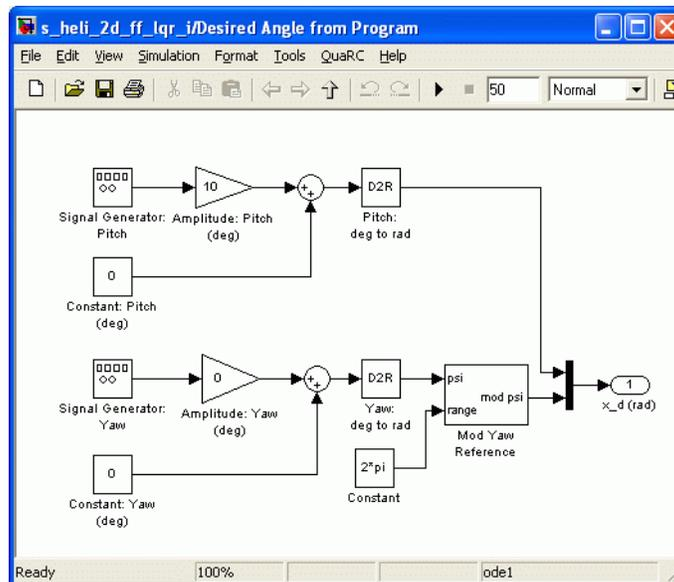

Figure 5.4: Desired Angle from Program subsystem
9. Open the subsystem labeled *Desired Angle from Program*, shown in Figure 5.4, below